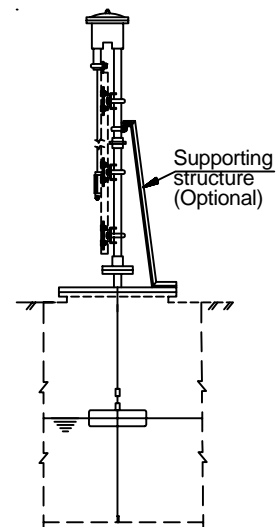

Figure no. 3
- 8 Refer figure no. 3 below. For details refer LF-131-0803. Volume indication can not be provided in this arrangement.